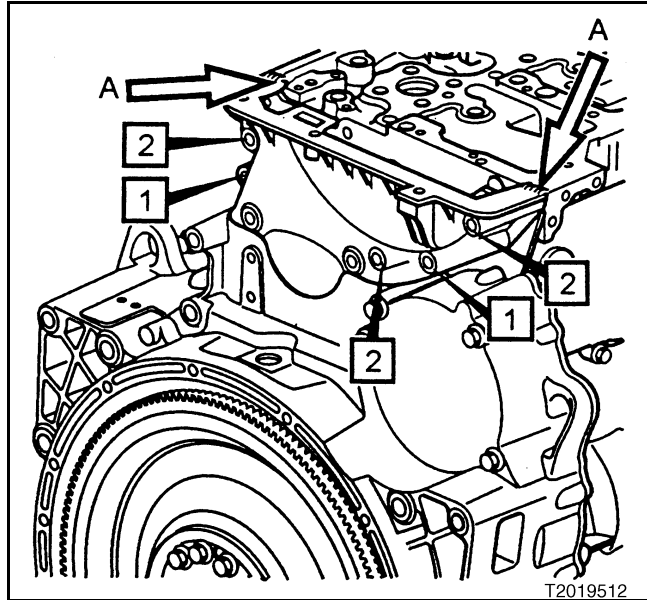

Figure 521 — Timing Gear Cover Installation
19. Place the timing gear cover in position on the engine. Install two capscrews (item 1 in Figure 521) and hand tighten.
20. Using alignment tools, 85111422A and 85111422B, ensure that the upper and lower seals are properly seated and that the upper surface of the cover is flush with the top of the cylinder head (points A in Figure 521).
21. Install the three remaining capscrews (item 2 in Figure 521) and tighten to specification.
23. Apply an even 2 mm (5/64 inch) bead of 342SX33 MACK-approved sealant at the joint lines (point A) between the cylinder head and the timing cover as Figure 521 indicates.